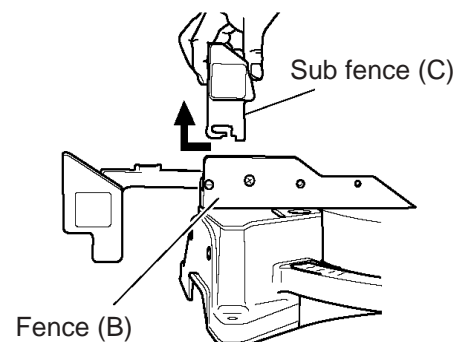
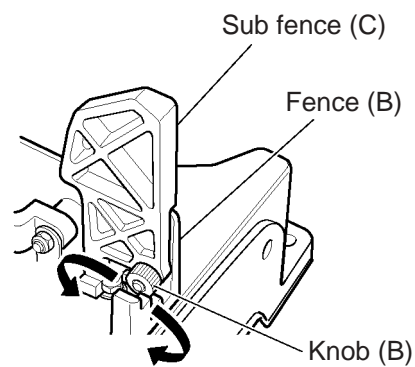

Fig. 21
Fig. 22
This power tool is equipped with sub fence (C). In the case of direct angle cutting and right bevel angle cutting, use sub fence (C). (Fig. 21)
In the case of left bevel angle cutting, remove sub fence (C) by sliding to the side and removing from the top as shown in Fig. 21. Loosen knob (B) then remove sub fence (C) (Fig. 22).